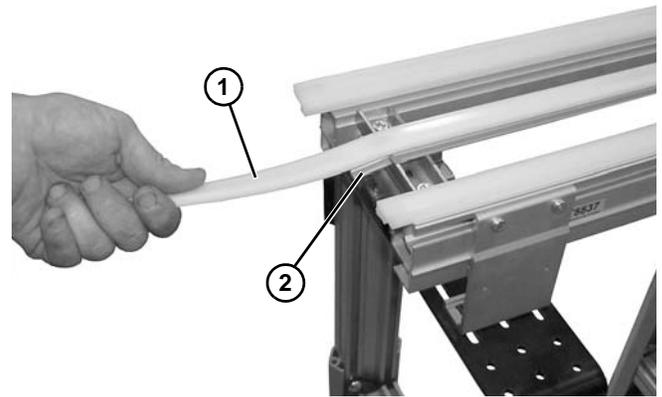

Figure 88
2. Slide center rail (**Figure 88, item 1**) from frame assembly (**Figure 88, item 2**).